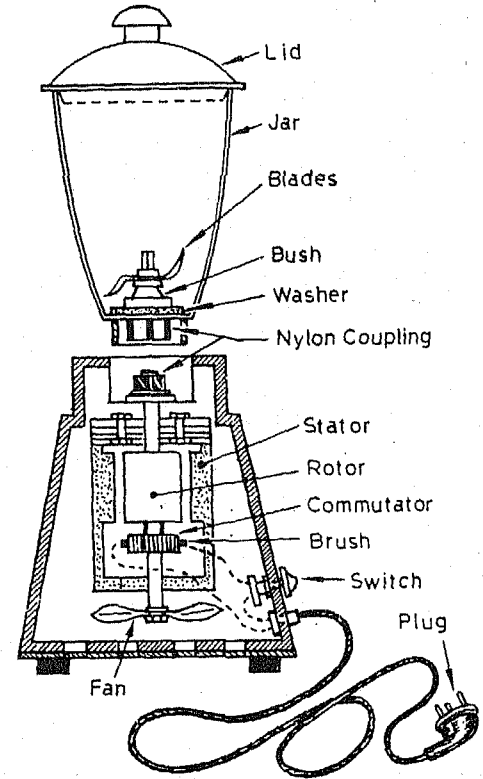

Fig.12.11 Electric Mixer
*Electric Mixer:* An electric mixer uses a very high speed motor and is used in kitchen for mixing, blending, beating, etc. The various parts may be seen in Fig. 12.11. Two jars are used in a mixer. The long one is used for wet mixing and the short one is employed as a dry grinder.